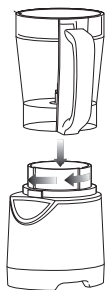

Fig. 11
- 2 Align and lower the pitcher onto the motor base. (Fig. 11) Handle should be aligned slightly to the left of the "LOCK" symbol on the motor base.
- 3 Rotate the container to the left as far as it will go to lock in place. (Fig. 11)